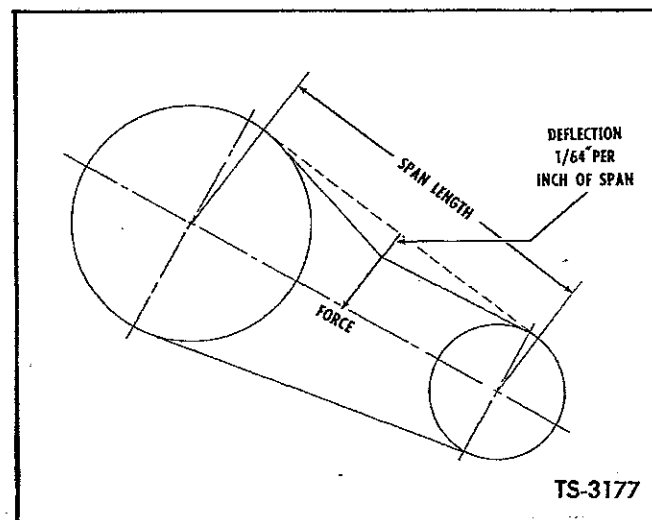

Fig. 11. Check Belt Tension
2. At the center of the span, apply force with a spring scale (at right angles to the span) large enough to deflect the belt $\frac{1}{64}$ inch per inch of span. Refer to Figure 11.